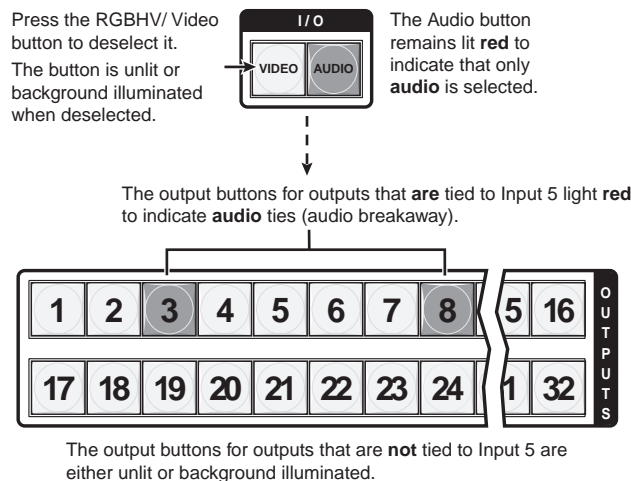

Figure 3-26 — Deselect RGBHV or video to view audio ties only
5. Press and release the RGBHV (CrossPoint 450 Plus switchers) or Video (MAV Plus switchers) button to deselect RGBHV or video (figure 3-26).